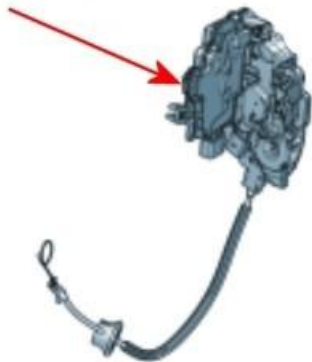

Figure 1
2) Referring to Rep.Gr 57 (front) Or Rep.Gr 58 (rear) - Remove the applicable door latch (Figure 1)